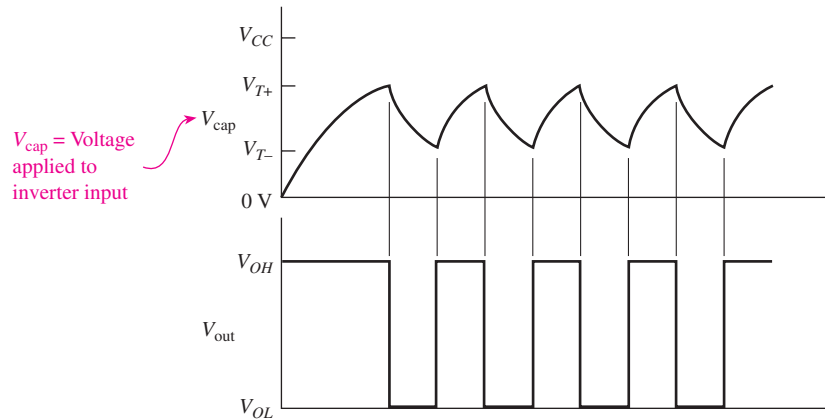

Figure 6 Waveforms from the oscillator circuit of Figure 5.
6. The cycle repeats now, with the capacitor charging back up to V_{T^+} , then down to V_{T^-} , then up to V_{T^+} , and so on. (The waveform at V_{out} will be a square wave oscillating between V_{OH} and V_{OL} , as shown in Figure 6.)